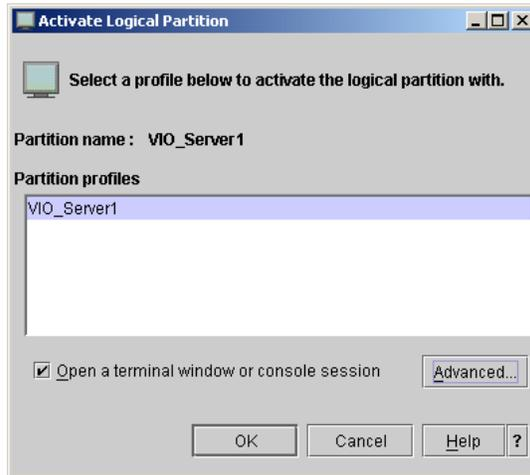

Figure 3-23 Selecting the profile
3. Select the VIO\_Server1 profile and then check the **Open a terminal window or console session** check box, as shown in Figure 3-23, and then click the **Advanced** tab.